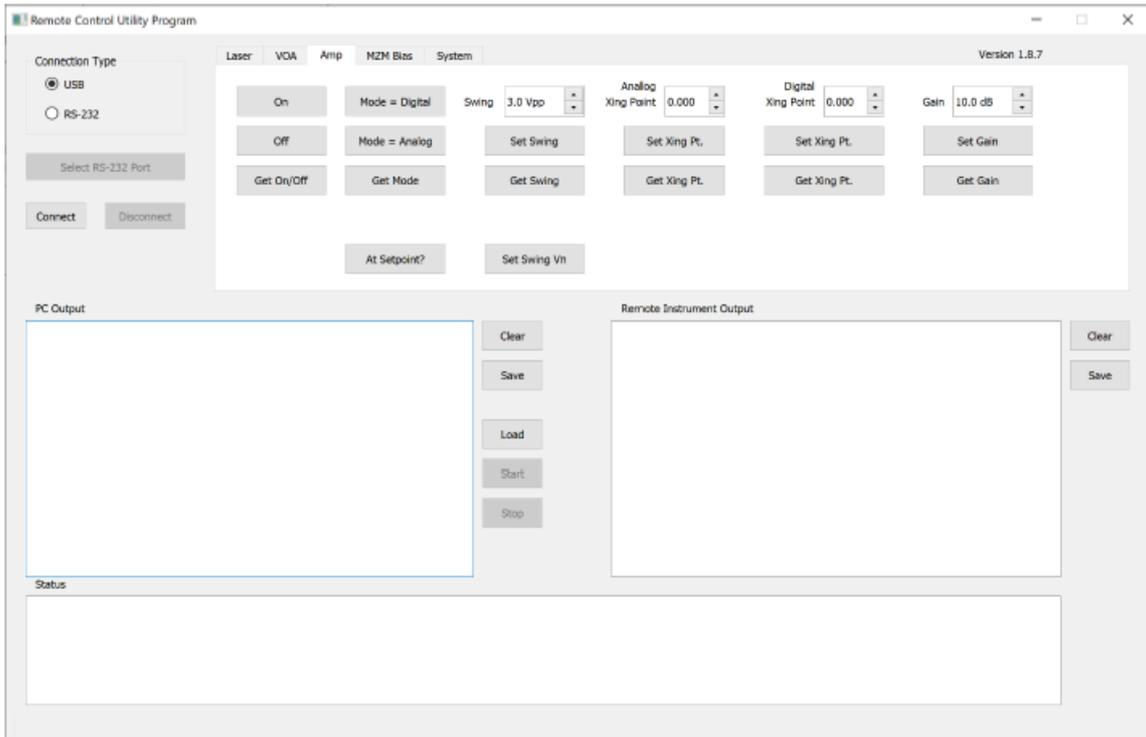

Figure 11 Amp Tab
- The functions in the Amp tab (Figure 11) correspond to the commands described in Section 2.2: RF Amplifier Commands.